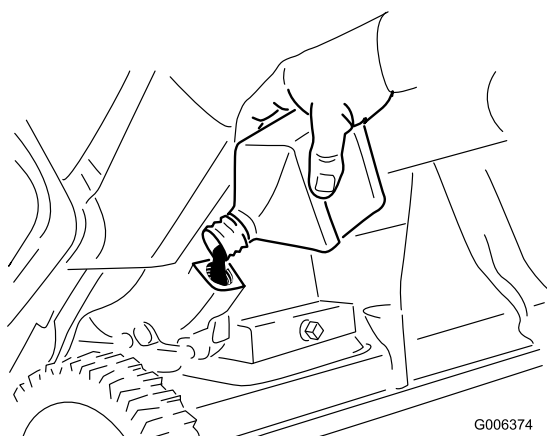

Figure 31
8. With the machine in the operating position, **carefully** pour oil into the oil fill hole. Wait 3 minutes for the oil to settle and add enough to bring it to the point of overflow. There should be very little, if any, oil left in the bottle (Figure 31).